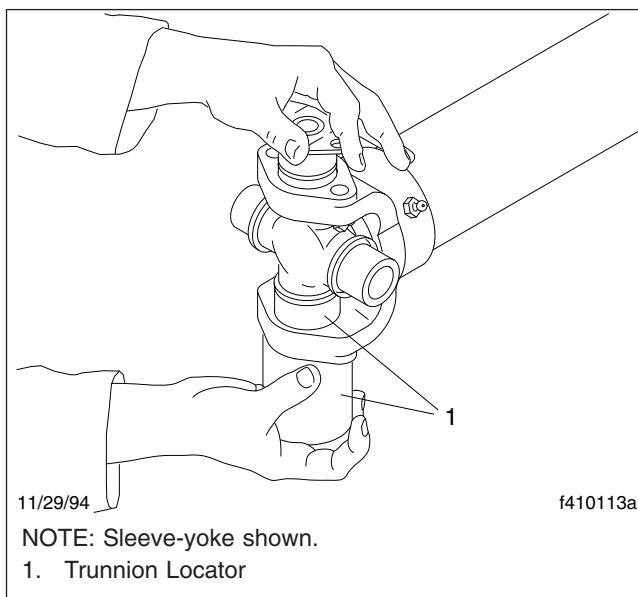

Fig. 8, Using a U-Joint Trunnion Locator
- 4.2 Move one end of the cross until a trunnion projects through the cross-hole, beyond the outer machined face of the yoke lug. Using a Spicer trunnion (journal) locator (see **Specifications 400**), hold the trunnions in alignment with the cross-holes, while placing a bearing cup (plate-type) over the projected trunnion, and aligning it with the cross-hole. See **Fig. 8**.